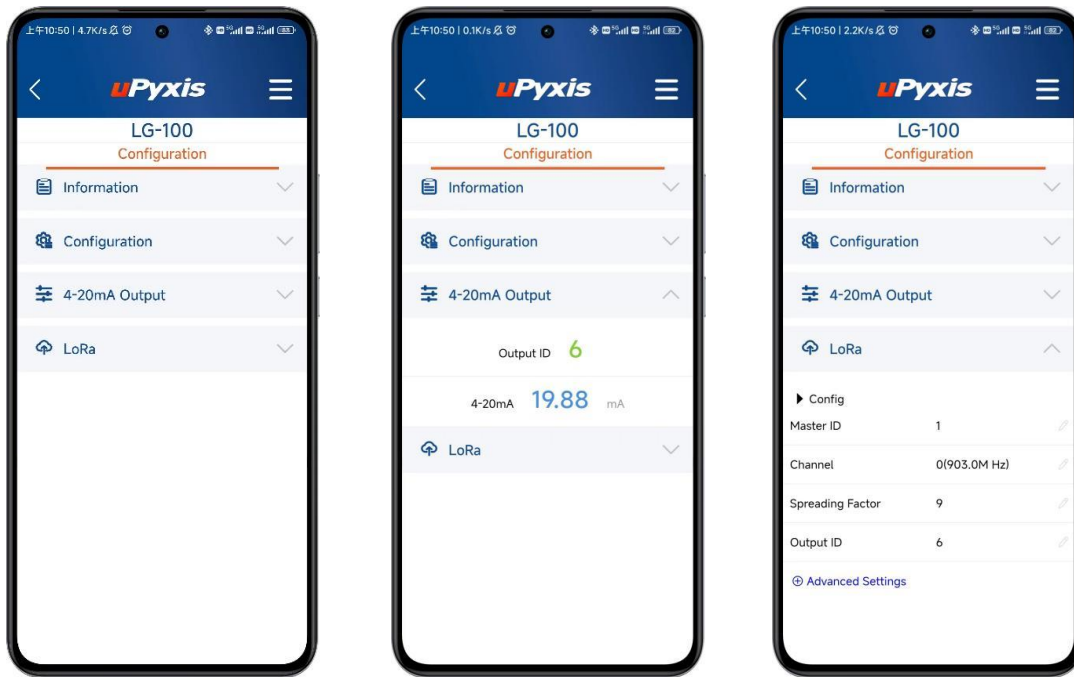

Figure 7. LG-100 Configuration Menu
- Click the "**LoRa**" menu and three additional submenus under LoRa will be displayed: **Information**, **Configuration** and **Diagnostics**, allows displaying/configuring and diagnosis of the LoRa communications as shown in Figure 7 on the next page.